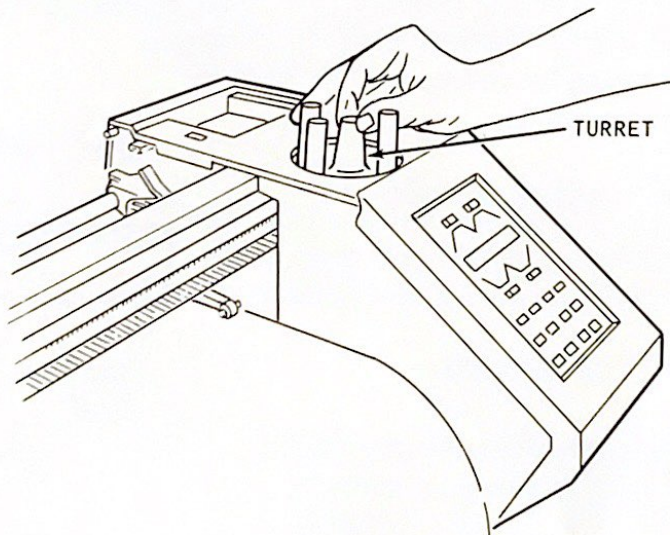

Figure 1-4. Loading the Turret
1. Raise the top cover and lift the pen turret from its housing. (Refer to Figure 1-4.) Push the pen carriage to the left if it interferes with pen turret removal.
The pen turret fits on a spindle located in the turret well. (See Figure 1-4.) To load the turret, proceed as follows.